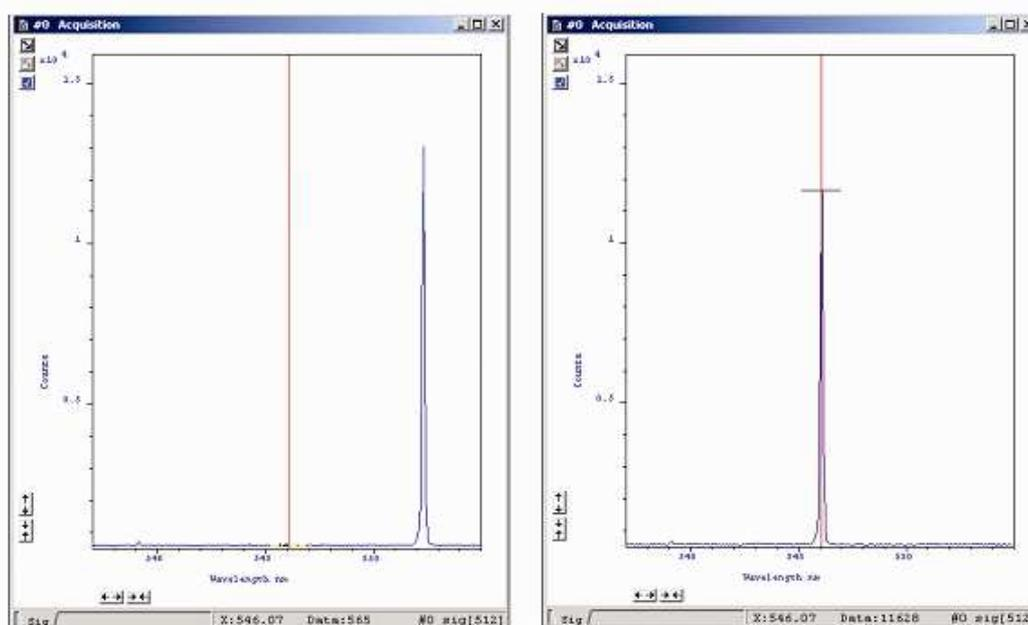

Figure 16: Spectra acquired before (left) & after (right) Detector Offset Adjustment
4. Acquire data. The target line should appear close to the centre of the display. Pressing the centre line button on the offset adjustment control will draw a red line on the centre CCD column of the display and serves as a useful aid to offset adjustment (see **figure 16** below).